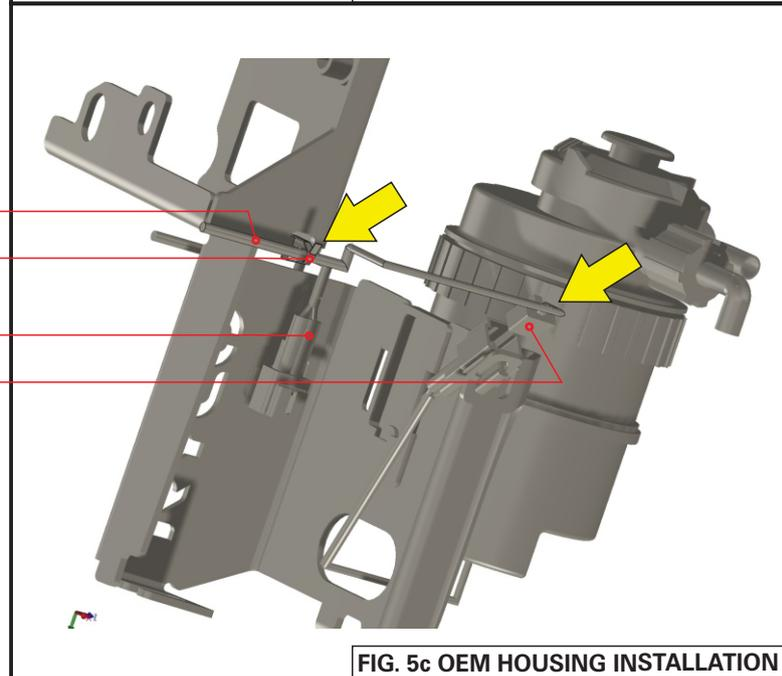

FIG. 5c OEM HOUSING INSTALLATION
13. Connect the Male and Female OEM Deutsch connector#1 then cable tie the OEM Deutsch connector#1 loom to the slot on the FB9810FC bracket as shown in FIG. 5c
14. Clip the Female OEM Deutsch connector#2 to the slot on the FB9810FC bracket as shown in Fig. 5c.